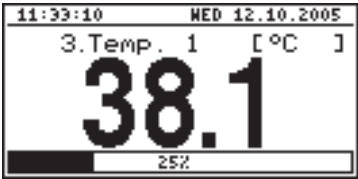

Fig. 6.4. "Single channel" mode
- "Single channel" mode (Fig. 6.4) enables the last measurement for one of the measurement channels to be viewed in the numeric and graphic form (bar).